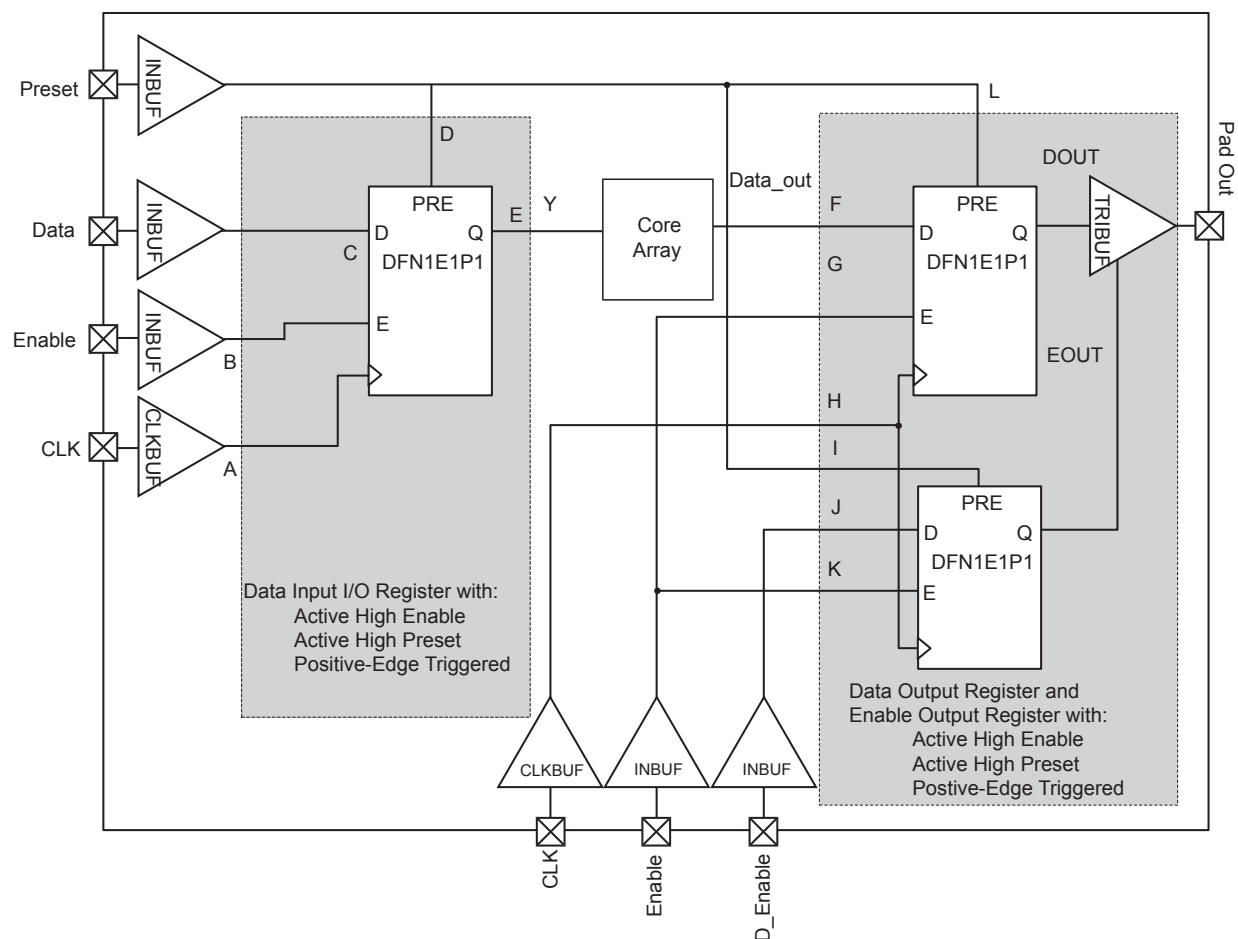

Figure 2-29 • Timing Model of Registered I/O Buffers with Synchronous Enable and Asynchronous Preset
* See Figure 2-29 on page 2-92 for more information.